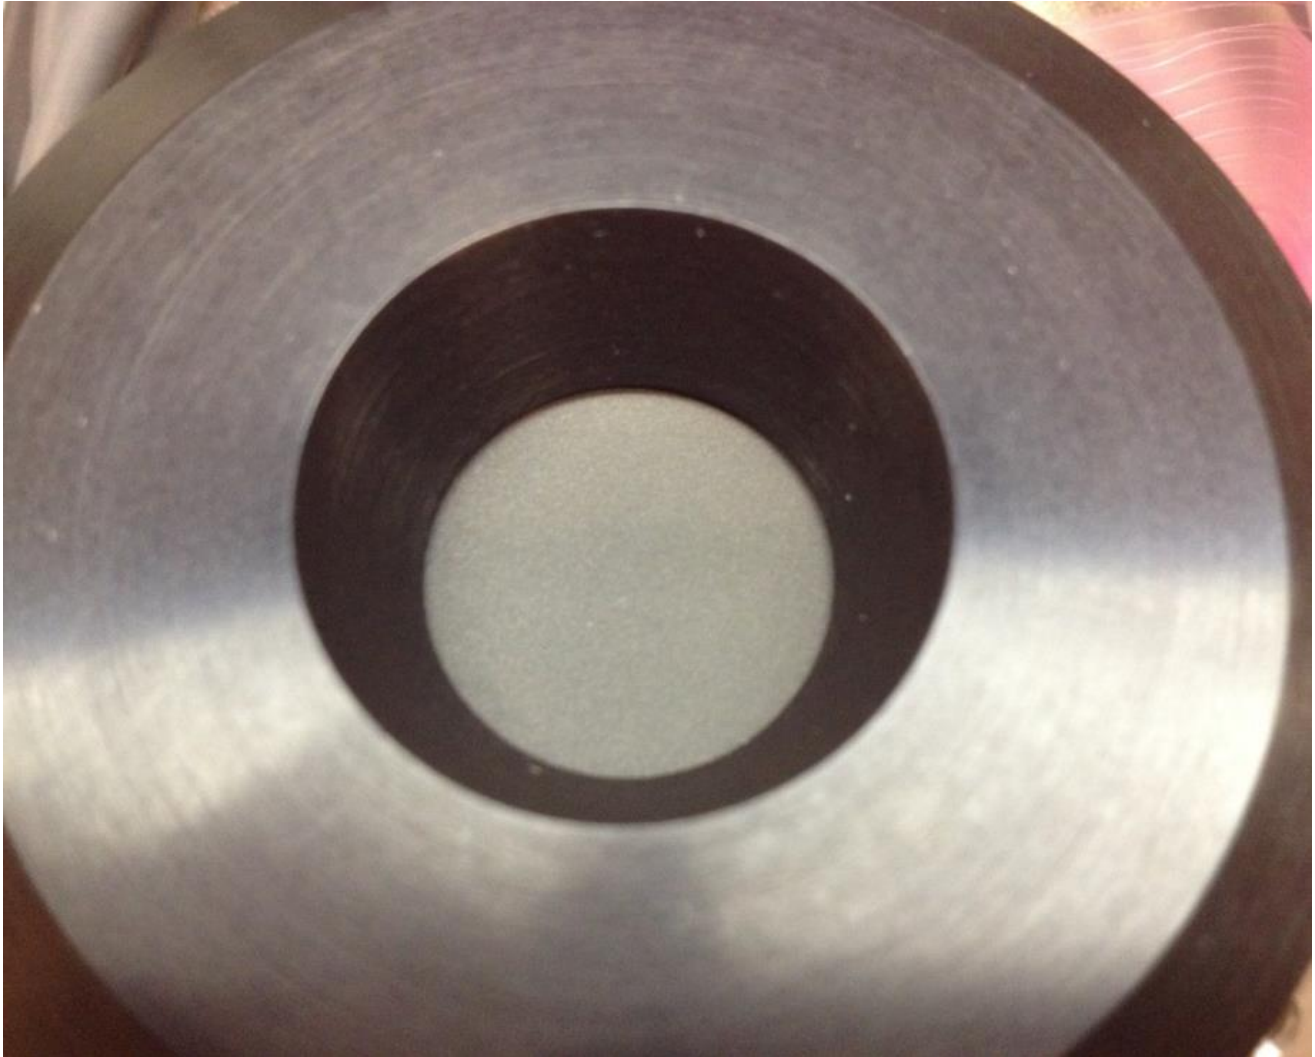

Figure 1: Healthy Thermopile Sensor with No Damage
- a. Figure 1: Healthy Thermopile Sensor with No Damage
- a. Figure 1: Healthy thermopile sensor with no damage